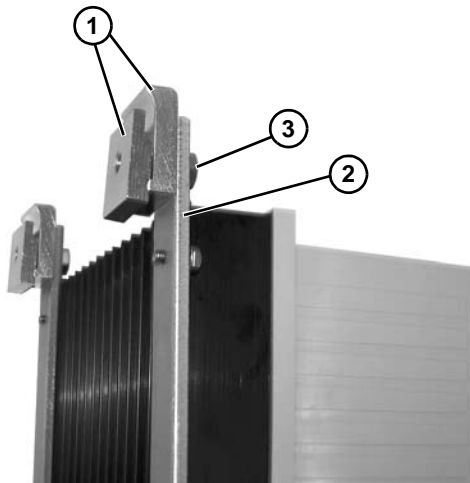

Figure 4
- Loosely attach clips (Figure 4, item 1) to mounting bar (Figure 4, item 2) with M6 x 16 mm screws (Figure 4, item 3).